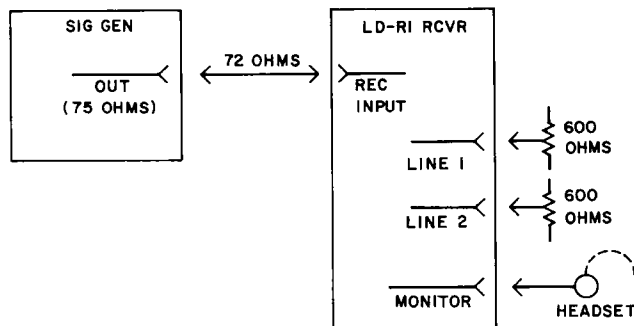

Fig. 3—TUBE TST Selector Switch on Director Unit
- 2 Set the TUBE TST selector switch on the director unit to DIR VER OSC V1 (see Fig. 3).
- 3 Connect the VOM to the HTR V test jacks (see Fig. 3).